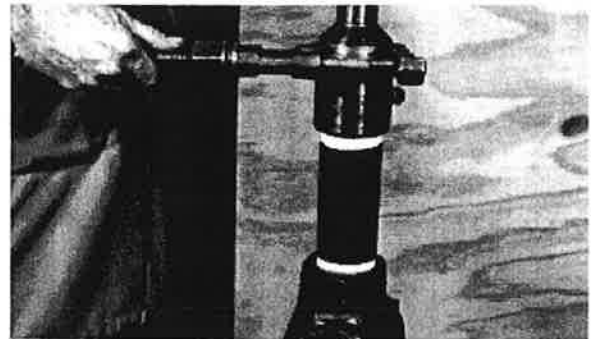

Figure 20. Install Drilling Machine
A. Attach machine to tapping valve. See Figure 20. Close and open valve to make sure that it works properly and that the drill does not interfere with opening and closing of valve disc. Be sure valve is in full open position before continuing to next step.